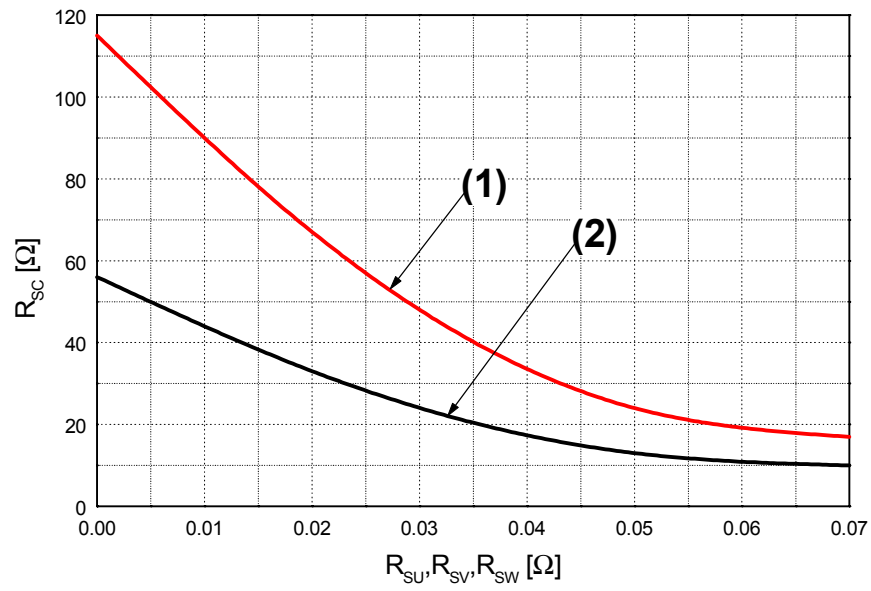

Fig. 6. R_{SC} Variation by change of Shunt Resistors (R_{SU} , R_{SV} , R_{SW}) for Short-Circuit Protection
5. Short-circuit current protection is functioning only at the low-sides. It would be recommended that the value of the external sensing resistor (R_{SC}) should be selected around 56 Ω in order to make the SC trip-level of about 30A. at the shunt resistors (R_{SU}, R_{SV}, R_{SW}) of 0Ω. For the detailed information about the relationship between the external sensing resistor (R_{SC}) and the shunt resistors (R_{SU}, R_{SV}, R_{SW}), please see Fig. 6.